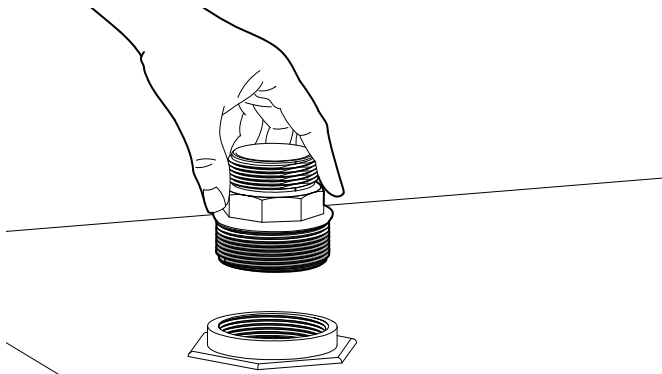

Figure 1
NOTE: For EZ-8 with Spin Collar, wrap both threaded ends of the tank adapter (B) 3 or 4 times with thread tape, and then insert tank adapter into tank (Figure 1).